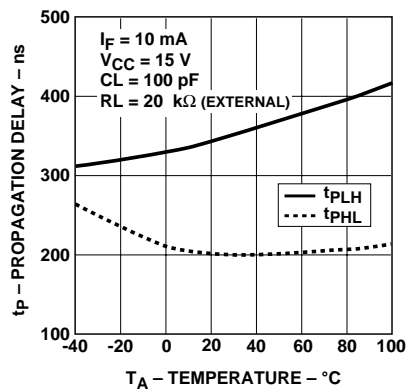

Figure 12. Propagation Delay with External 20 kΩ RL vs. Temperature.
- Due to tolerance of the internal resistor, and since propagation delay is dependent on the load resistor value, performance can be improved by using an external 20 k $\Omega$  1% load resistor. For more information on how propagation delay varies with load resistance, see Figure 12.